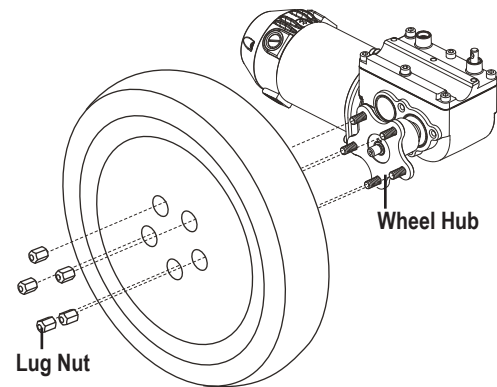

Figure 11. Drive Wheel with Five Lug Nuts
4. Remove the hubcap, if equipped, then remove the five (5) lug nuts from the wheel hub. **See figure 11.**